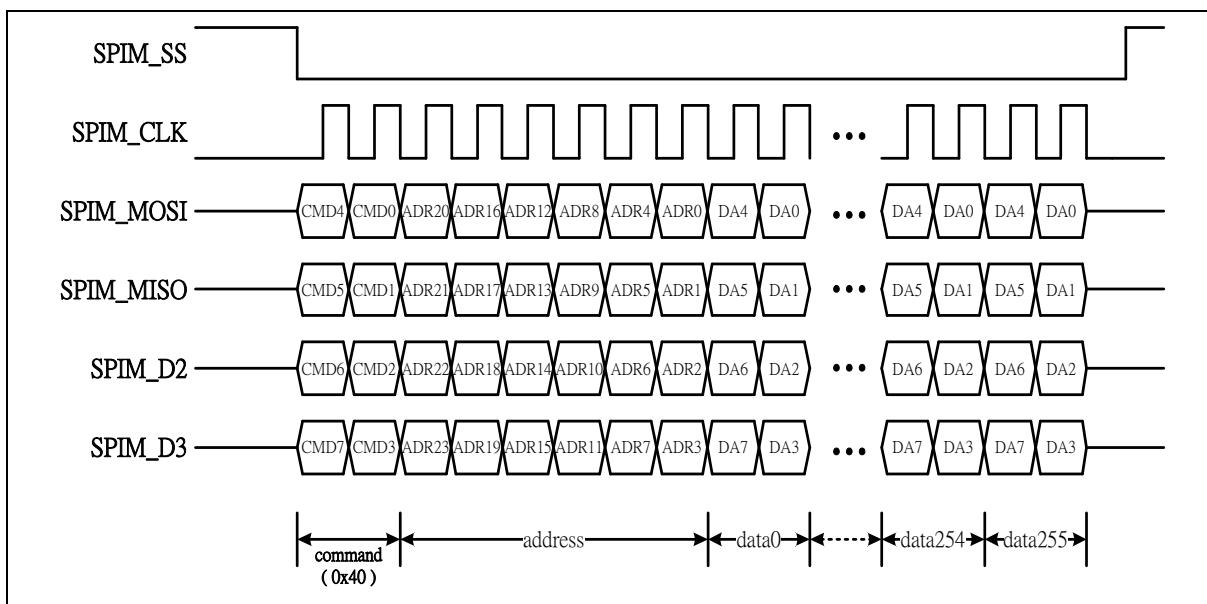

Figure 6.21-5 TYPE_3 Program Command Flow with Quad Mode Write
- Quad write, set CMDCODE (SPIM_CTL0[31:24]) to 0x40 for TYPE_3 program command (refer to Figure 6.21-5).